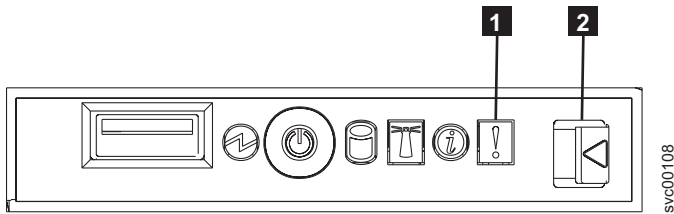

Figure 214. SAN Volume Controller 2145-8F4 operator-information panel
5. Press the operator-information panel release latch ( **2** in Figure 214 on page 196) and slide the operator-information panel away from the SAN Volume Controller 2145-8F2.